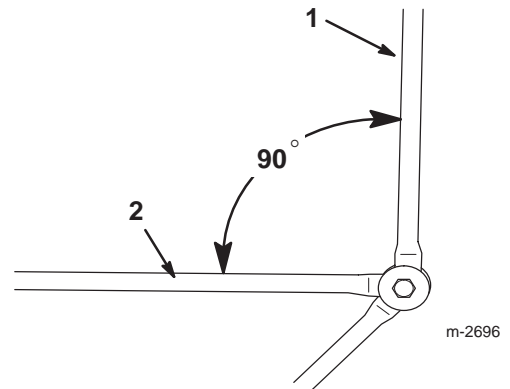

Figure 8
13. From the operating position, move the entire frame assembly forward until the rear frame is at a 90-degree angle to the horizontal frame. (Fig. 8).